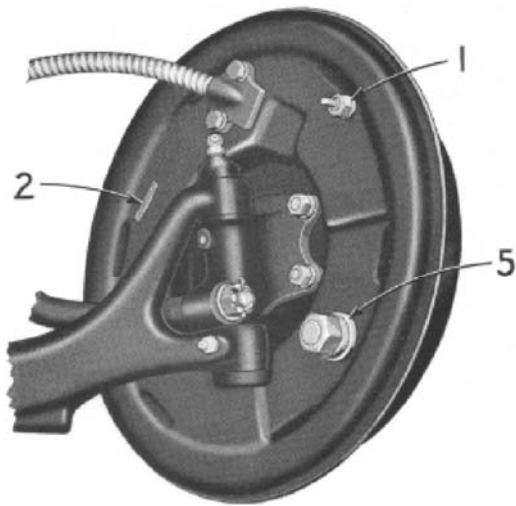
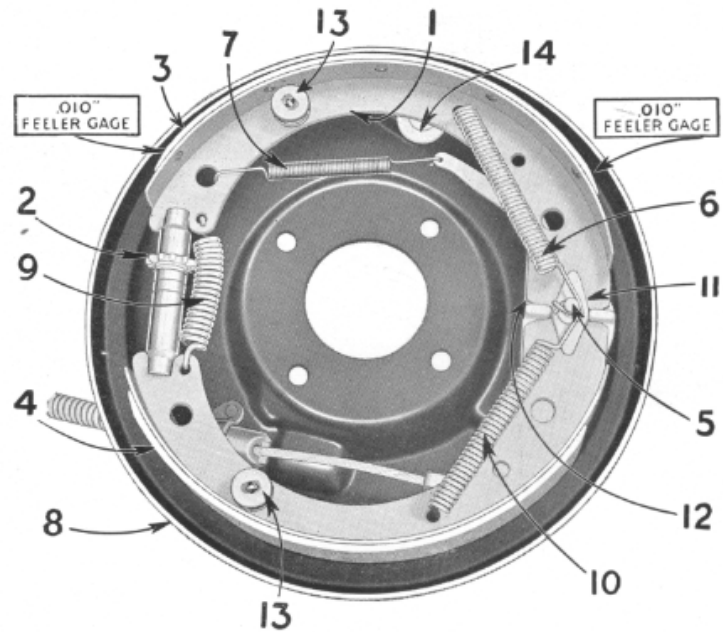

Figure 2—Left Front Brake
Figure 4—Left Rear Brake
The Eccentric Adjustment - 1 - Fig. 2. This adjustment centralizes the brake shoe in the brake drum.
6. Remove adjustment hole covers from brake backing plates (2-Fig. 2) and inspection hole covers from brake drums.
7. *At All Wheels:* Loosen eccentric lock nut (1-Fig. 2) on eccentric adjustment and insert .010" feeler gauge between the lining of top shoe and brake drum (Fig. 4). Turn the eccentric adjustment in the direction of forward wheel revolution until .010" feeler is just snug at anchor and adjusting ends of top shoe. Tighten eccentric lock nut. The clearance at both ends of top shoe should not vary more than .003". Should the variation between the two ends be greater than .003", it will be necessary to relocate anchor pin as outlined in Paragraph 17. (In case of clearance variation, it is desirable that clearance at anchor end of shoe be less than at adjusting end.) (See Note on Page 5.) Do not adjust anchor pin unless this inspection shows it necessary.